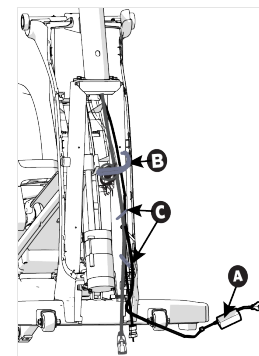

Figure 4
1. Coil up all cables—coax, power extension **A**, and Ethernet—and hold them in place with one hand, and with the other hand, thread a large zip tie around the upright support (Figure 4). **NOTE** Make sure you thread the zip tie through the designated slots in the power supply bracket **B**.